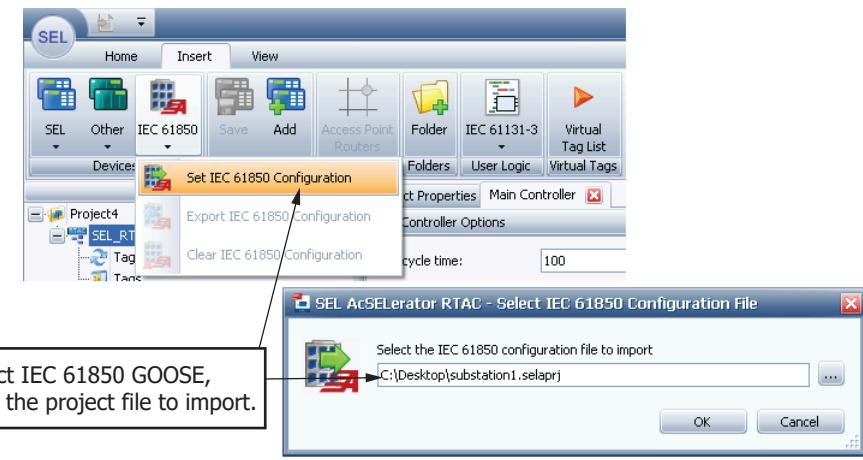

Figure 2.181 Insert GOOSE Configuration
- Step 8. In ACSELERATOR RTAC, select **SET IEC 61850 Configuration** from the **Insert** ribbon and browse to the selapprj project file (see *Figure 2.181*).